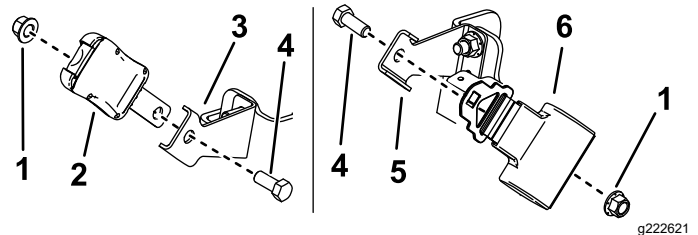

Figure 8
2. Install the seat-belt assembly and buckle to the brackets using 2 bolts (1/2 x 1-1/4 inches) and 2 locknuts (1/2 inch) as shown in Figure 8. Torque the bolts to 102 N·m (75 ft-lb).